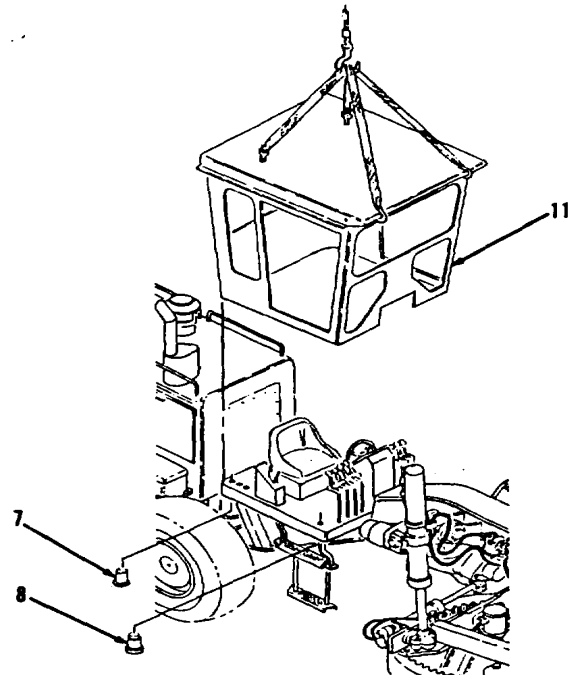

Figure 9-4.
5. Position two mountings (8) and six mountings (7, Figure 9-4).
6. Lower ROPS (11) to within 1/2 inch of operator's platform.